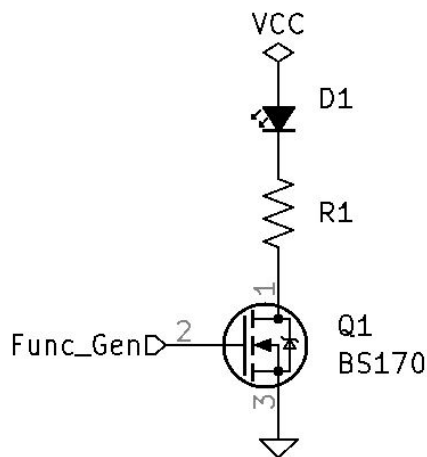

Figure 10.1: Switch Test Circuit 1
2. Design a circuit to test the switching ability of the BS170. See *Switch Test Circuit 1* Figure 10.1. Make $VCC = 40V$.
3. Review Figure 10-1 of *Texas Instruments TL494 Data Sheet* [21] and Figure 35 of *Designing Switching Voltage Regulators with the TL494* [22]